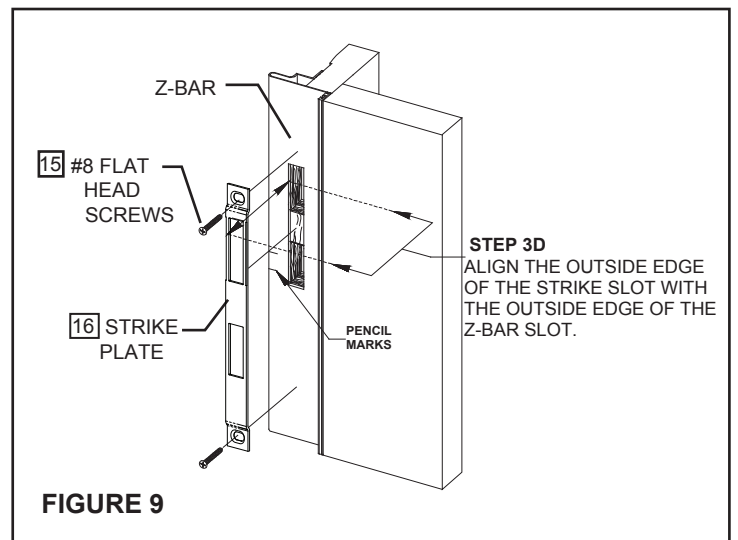

FIGURE 9
C. Position the strike plate on the latch side z-bar. Align the strike vertically by centering the bottom hole in the strike plate with the marks previously made on the z-bar. **See Fig. 9.**